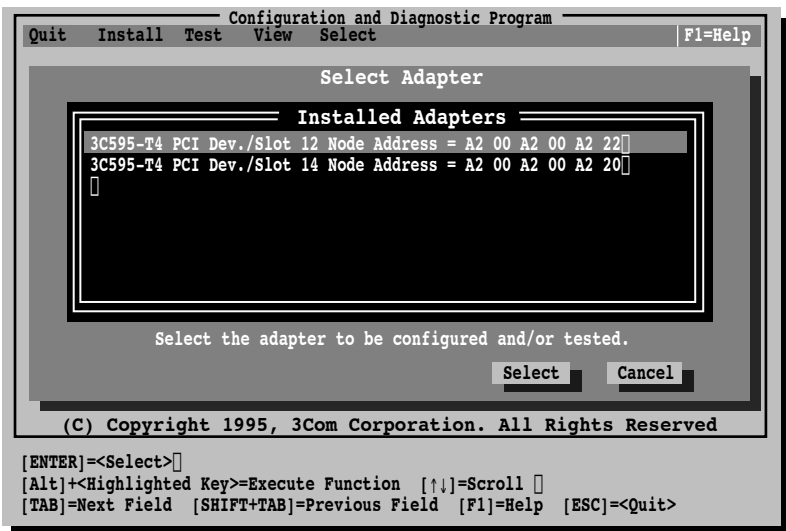

Figure B-1 Multiple Adapter Option Configuration33
- a If you have multiple adapters installed, as shown in Figure B-1, use the arrow keys to select the desired adapter and press [Enter]. When the *Configure Adapter* option is highlighted on the *Install* pull-down menu, press [Enter] again.